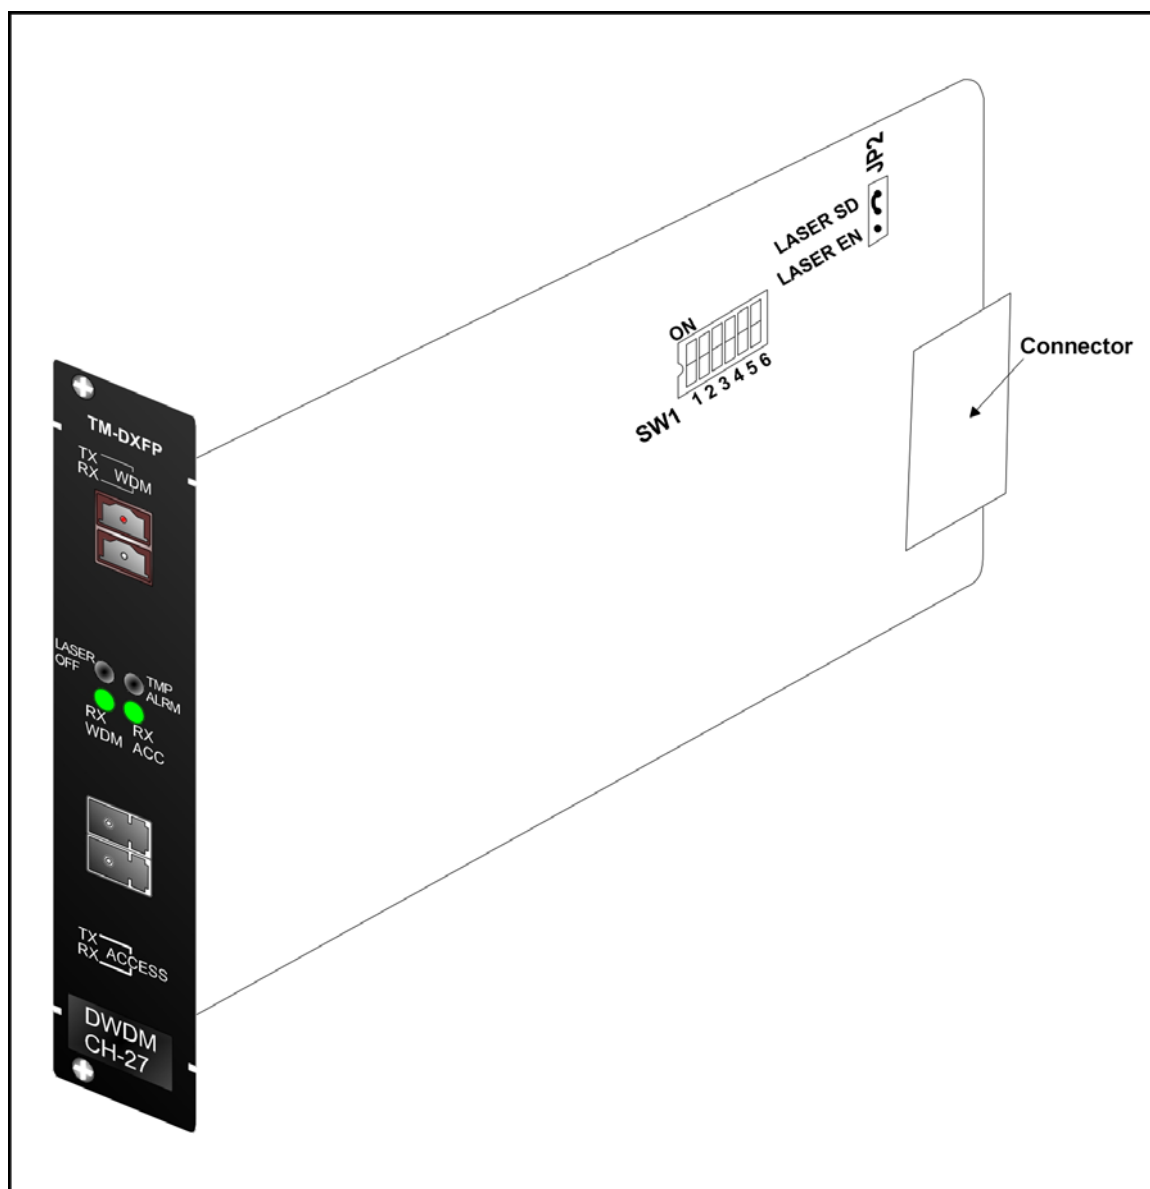

Figure 40: DIP Switch Location on TM-DXFP Transponder Module
1. With the aid of *Figure 40*, locate Jumper **JP6** on the TM-DXFP Transponder module and position it using *Table 14*.
2. With the aid of *Figure 40*, locate DIP switch **SW1** on the TM-DXFP Transponder module. and set it using *Table 15*.